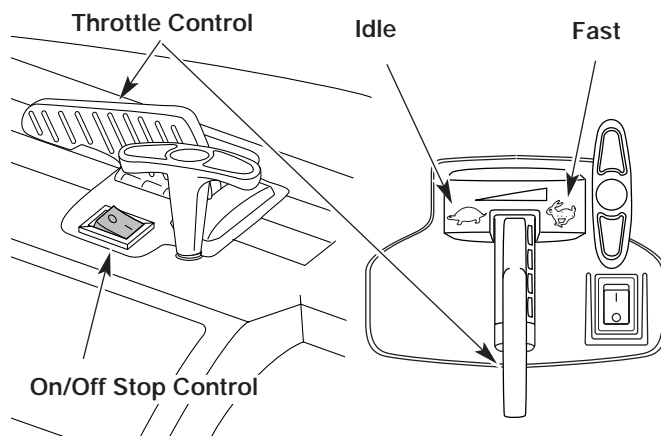
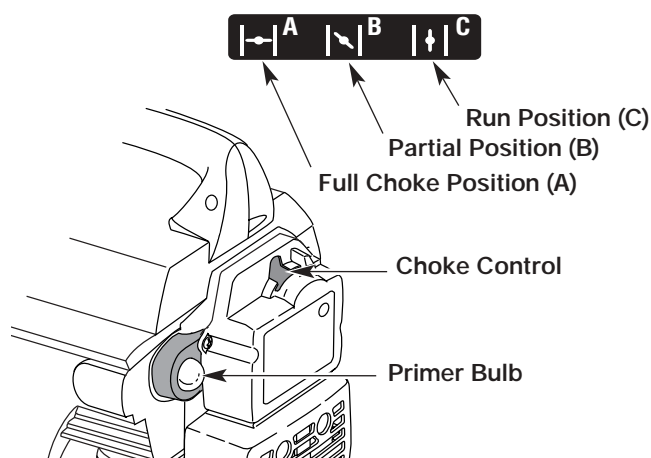
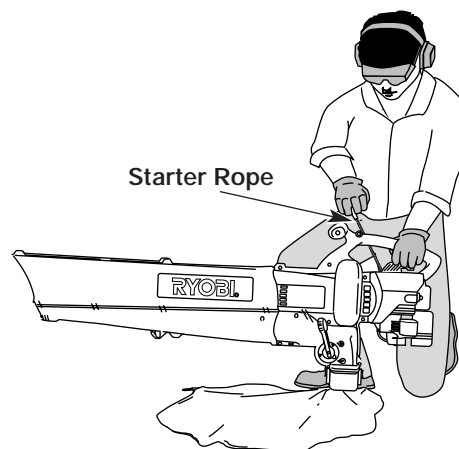

Fig. 9
Fig. 10
Fig. 11
WARNING: Avoid accidental starting. Make sure you are in the starting position when pulling the starter rope (Fig. 11). To avoid serious injury, the operator and unit must be in a stable position while starting.
3. Fully press and release the primer bulb 10 times, slowly, until **FUEL IS VISIBLE IN THE PRIMER BULB** (Fig. 10). If you can't see fuel in the bulb, press and release the bulb as many times as it takes before you can see fuel in it.
4. Place the choke lever in the **FULL** choke (|←|) position (Fig. 10).
5. Place the unit in the starting position (Fig. 11). Move the throttle control to the fast position (↻) (Fig. 9).
7. Place the choke lever in the **PARTIAL** choke (|↘|) position (Fig. 10).
8. Pull starter rope briskly 1 to 3 times to start the engine (Fig. 11).
NOTE: If the engine floods while trying to start, place the choke lever in the **RUN** (|↑|) position (Fig. 10). Move the throttle control to the fast position (↻) (Fig. 9). Pull the starter rope briskly. The engine should start with three (3) to eight (8) pulls.
10. Allow the engine to warm up for 5 to 10 seconds. Place the choke lever in the **RUN** (C |↑|) position (Fig. 10).
NOTE: Choking is unnecessary when starting a warm engine. Put the throttle control in the fast position (↻) (Fig. 9) and start unit with the choke control in the **PARTIAL** (B |↘|) position (Fig. 10).
1. Move the throttle control to the idle position (↻) (Fig. 9). Allow the engine to cool down by idling for 10-15 seconds.
2. Press the On/Off Stop control down in the **STOP** (O) position until the engine comes to a complete stop (Fig. 9).
1. Press the On/Off Stop control down in the **STOP (O)** position until the engine comes to a complete stop (Fig. 9).